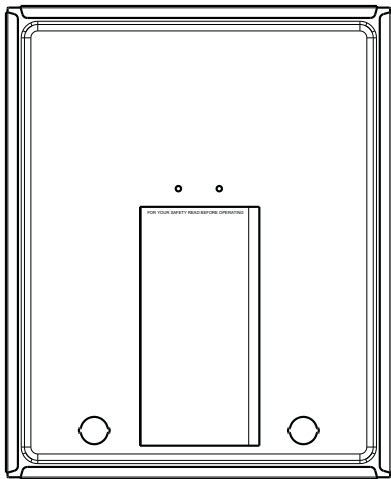

Fig. 30 - Information Booklet Location
4. Remove one of the unused rubber plugs in the port on the collector box opposite the condensate trap. See Fig 30.
NOTE: Record the LED status code BEFORE removing the blower access door or turning off 115-v power to the furnace. See the information booklet inside the main furnace door for a service code legend. See Fig. 30.